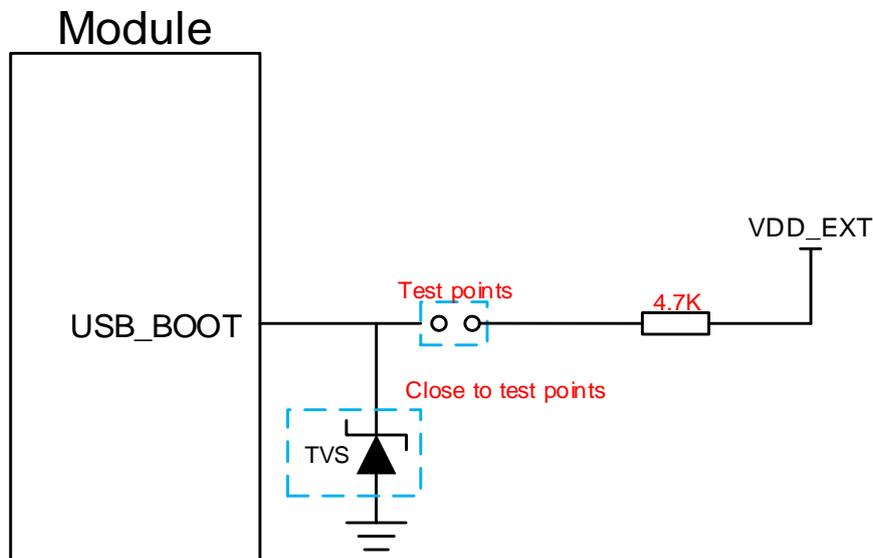

Figure 31: Reference Circuit of the USB\_BOOT Interface
2. When using MCU to control the module to enter the emergency download mode, follow the above timing sequence. Do not pull up USB\_BOOT to 1.8 V before powering up VBAT. Linking the test points of USB\_BOOT to 1.8 V as shown in **Figure 31** can manually force the module to enter the download mode.